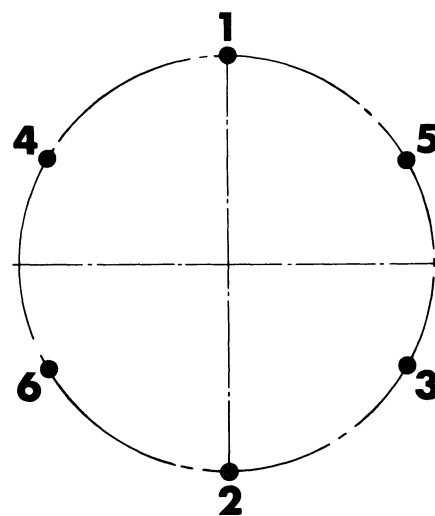

Figure 15. Torquing Sequence
18. Attach the top cover with six screws. Tighten the screws to a torque of 9 lb-ft (120 Nm) using sequence shown in Figure 15.